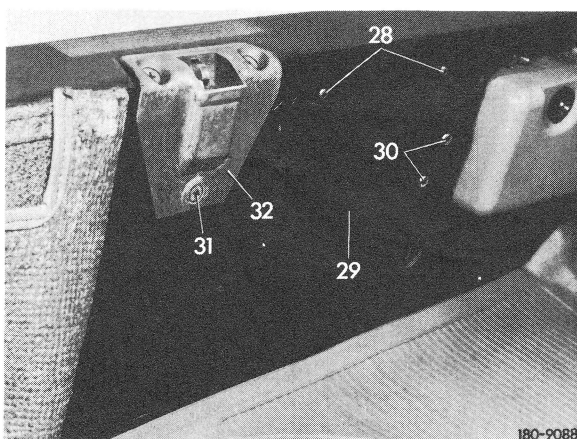

Fig. 2
3 Unscrew sheet-metal screws (28) from lefthand cover of rear center piece (29) (Fig. 2).
4 Unscrew both oval head screws (30) for vacuum element (Fig. 2).
6 Unscrew countersunk screws (31) and remove lock body (32) (Fig. 2).
13 Insert lefthand cover – rear center piece (29) and screw down with oval head screws (28) (Fig. 2).
14 Insert lock body (32) and screw down oval head screws (31) (Fig. 2).